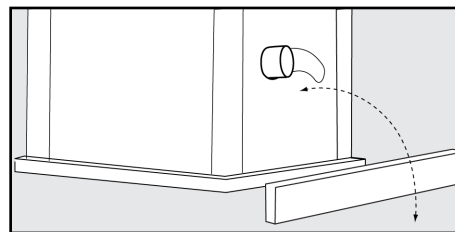

FIGURE 3
2. Lay a scrap piece of 2x4 in back of the saw, as shown in Figure 3, to prevent damage to the dust chute when righting the saw.